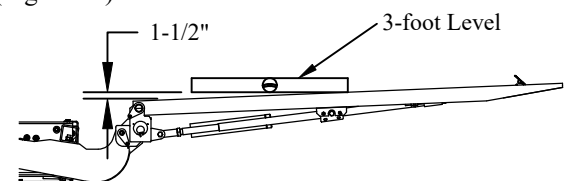

Figure 22: Platform position.
6. **Adjust** the passenger side support arm so that the platform is 1-1/2" from level over a 3-foot length (Figure 22). Adjustment similar to folding cylinder.